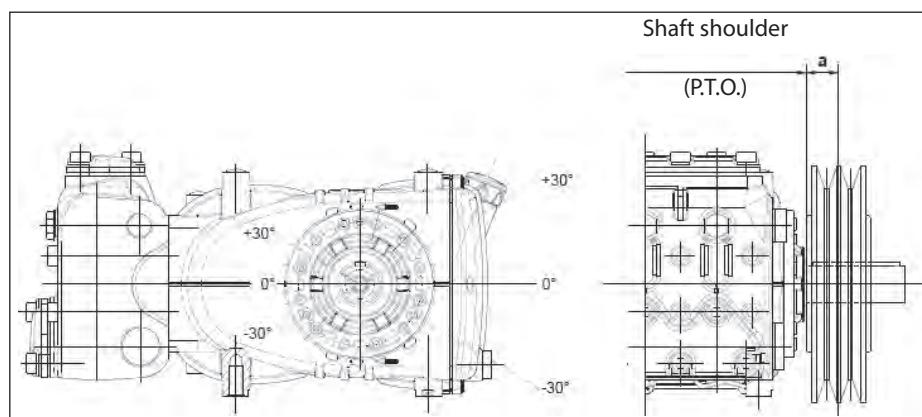

Fig. 10
The radial load on the shaft must not exceed 3000 N (value necessary for Layout definition). The transmission is considered adequate if the load is applied to a maximum distance **a=30 mm** from the shaft shoulder (P.T.O) as shown in Fig. 10.
- b) Use high performance belts – for example **XPB** instead of **SPB** – as a lower quantity of belts for the same transmitted power may be necessary and a consequent shorter resulting distance compared to the shaft shoulder (P.T.O.) “a” of Fig. 10.
- e) Follow the direction of the belt pull as shown in Fig. 10 for other needs, contact our **Technical** or **Customer Service Departments**.